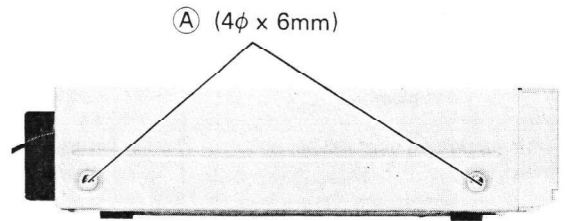

Figure 1
1. Remove four screws (A) (4φ x 6mm) and two screws (B) (3φ x 6mm), and the top cabinet can be removed from unit. (Figure 1, 2 and 3)